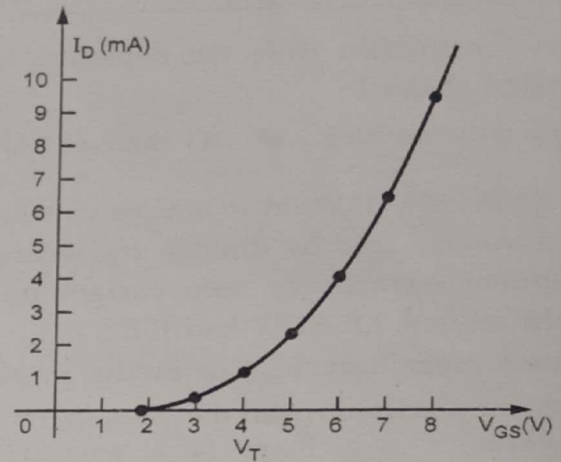

Fig. Q.52.3 Transfer characteristic for n-channel enhancement type MOSFET
- Fig. Q.52.3 shows the transfer characteristic for n-channel enhancement type MOSFET. This characteristic is quite different from characteristic that we obtained for JFET and depletion type MOSFET. For an n-channel enhancement type MOSFET it is now totally in the positive V_{GS} region and as we know I_D does not flow until $V_{GS} = V_T$.